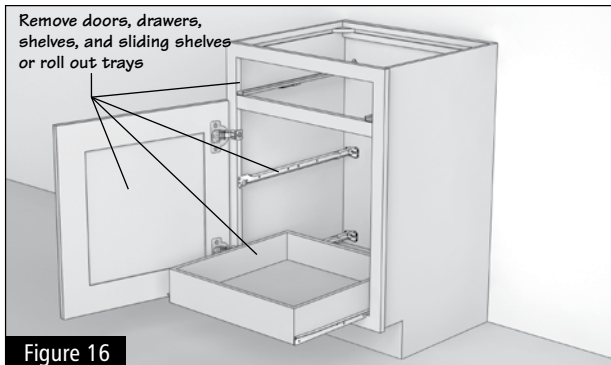

Figure 16
- 6.1** Remove all shelves, drawers and doors. You might want to mark (or stack them in position) for reinstalling later. This will make the cabinets lighter and easier to handle. (See Appendix for drawer removal technique.) (Figure 16)